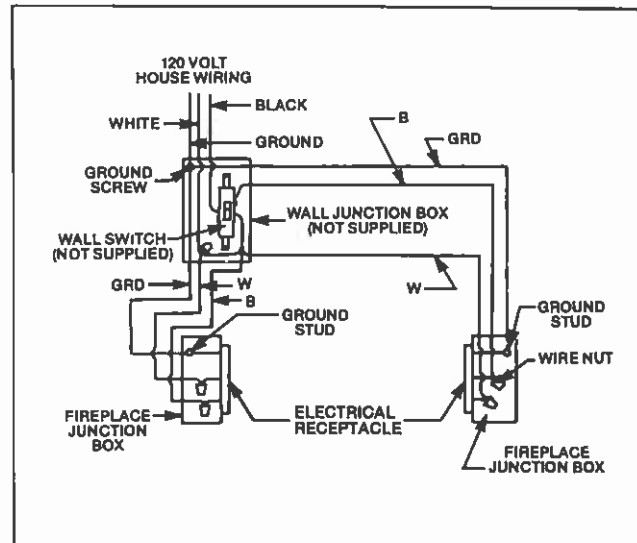

Fig. 4. Wiring diagram.
5. Repeat steps 2 through 4 for remaining junction box. Note that it is best to run a separate wire from the switch box as shown in Fig. 4 to avoid overcrowding of the DWK junction boxes.